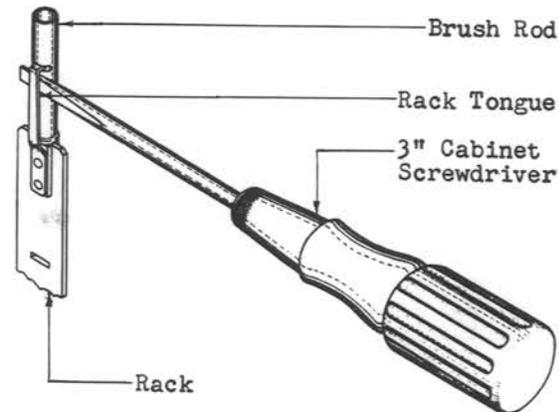

Fig. 12 - Method of Uncoupling Rack from Brush Rod
3.005 Method of Removing Rack: Raise the brush rod a few terminals. Uncouple the brush rod from the rack by inserting the blade of the 3" cabinet screwdriver between the rack tongue and brush rod as shown in Fig. 12 and turning the screwdriver just enough to disengage the tongue from the brush rod.